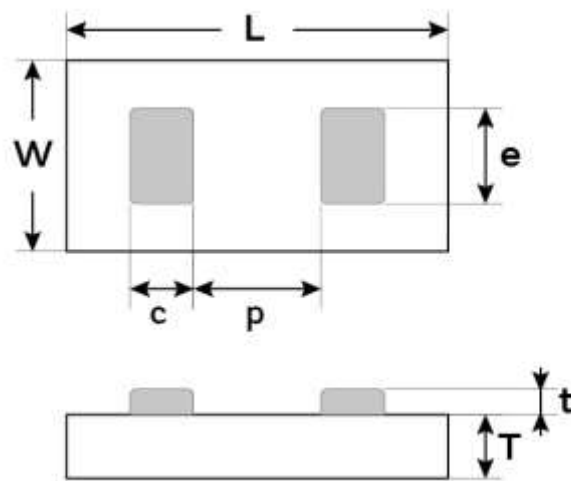

Figure 7 - Package outline drawing
(1) Other film frame carrier are possible on request
(2) ENIG : 0.1µm Au / 5µm Ni
(3) missing capacitors can reach 0.5%
(4) refer to Figure 7